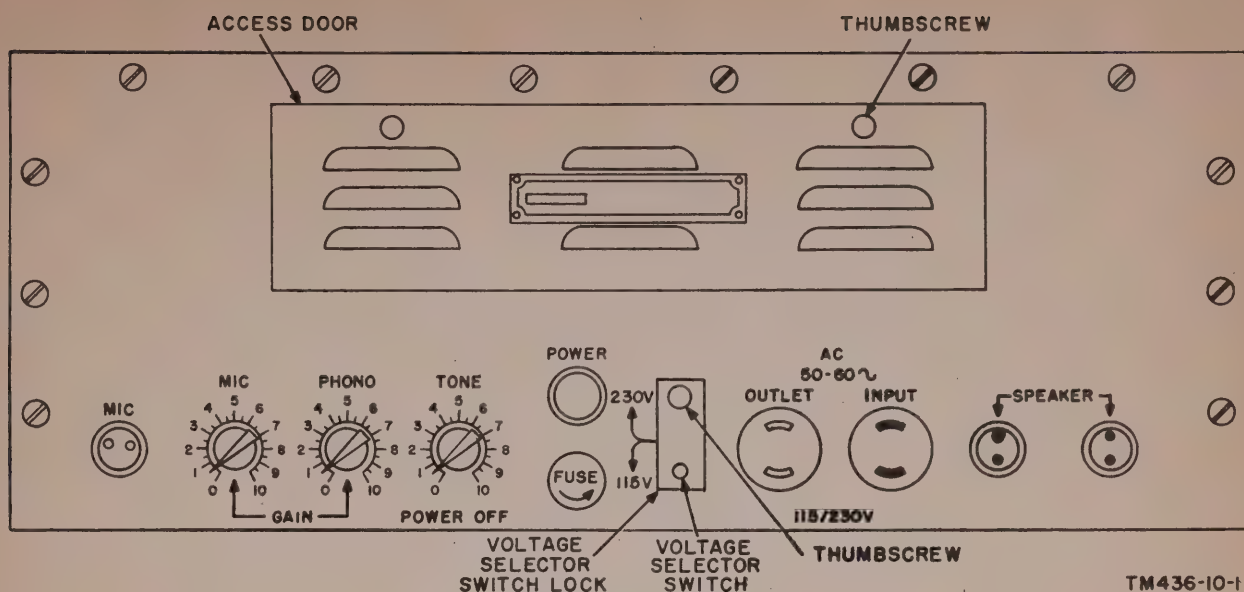
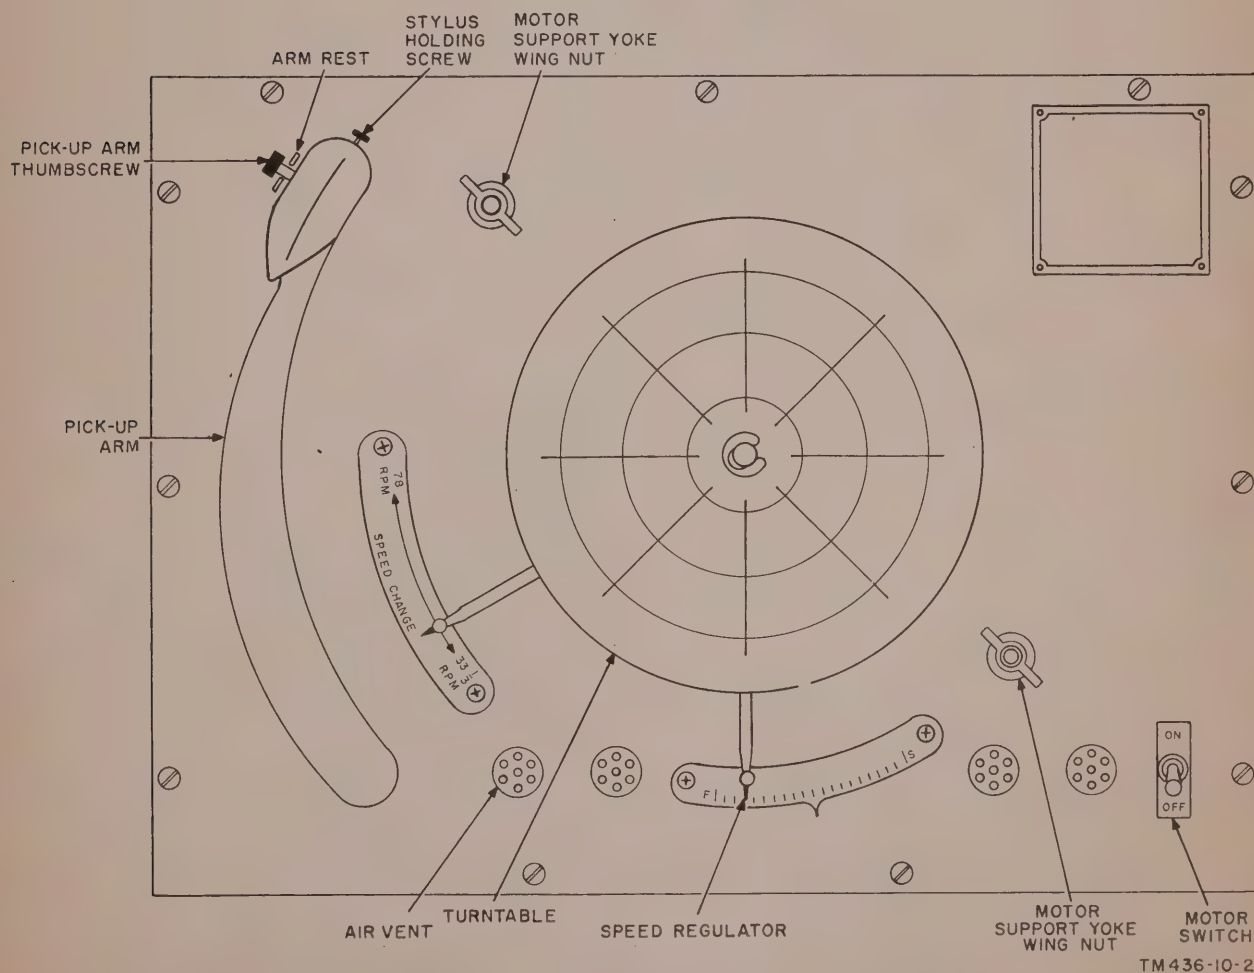
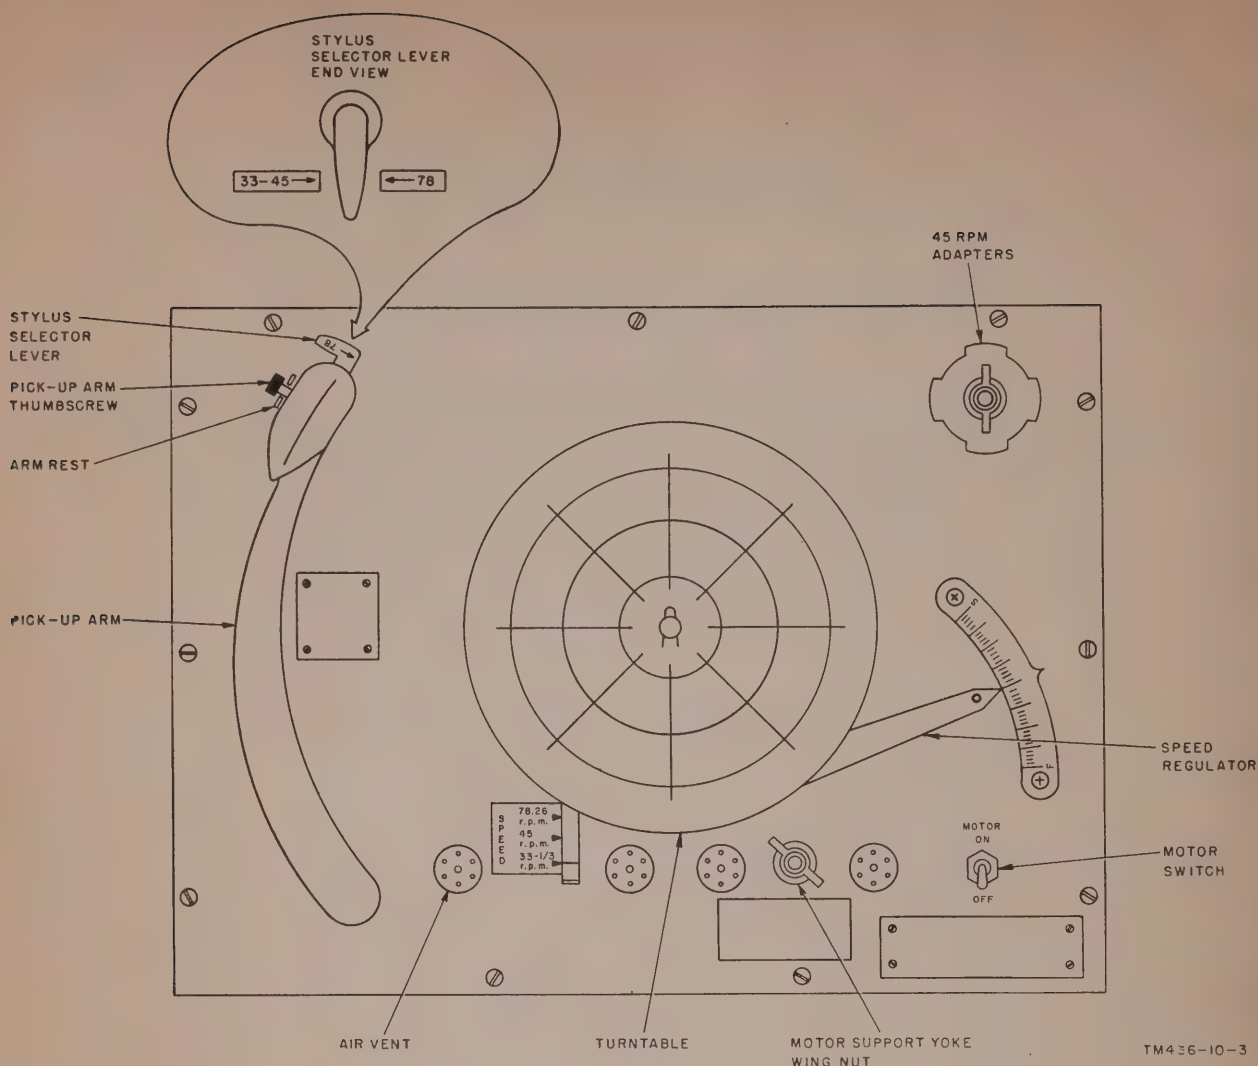
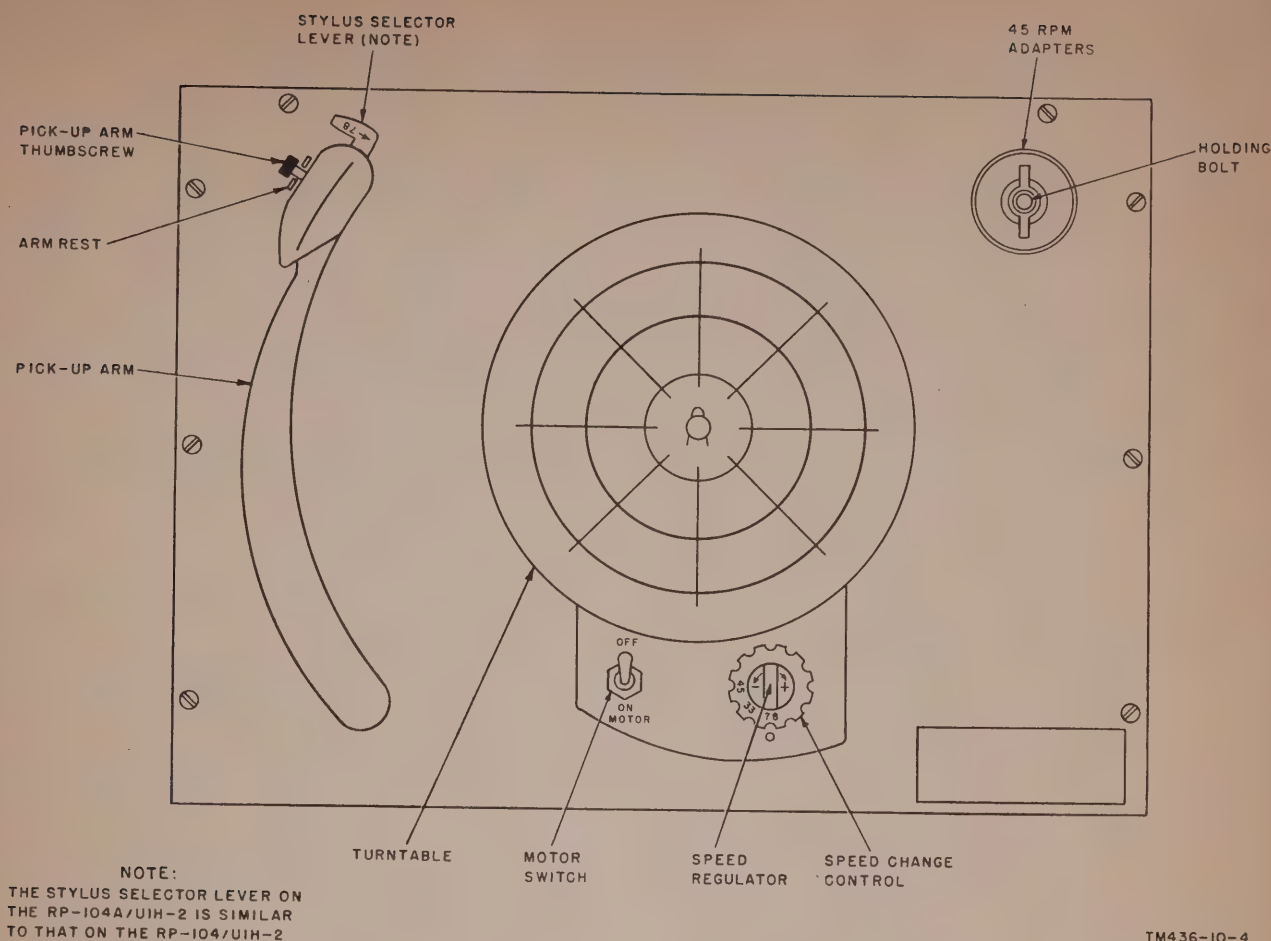

Figure 4. Reproducer, front view.
Figure 5. MX-932/U, top view.
Figure 6. RP-104/UIH-2, top view.
Figure 7. RP-104A/UIH-B, top view.
POWER indicator (fig. 4).	When lighted, indicates power is applied to reproducer.
- (1) Remove the stylus shield (RP-104 (*)/UIH-2). Loosen the pick-up arm thumbscrew (fig. 5, 6, or 7).
- (2) Turn the TONE-POWER OFF control (fig. 4) to its extreme clockwise position. The POWER indicator will light. Allow at least 1 minute for the reproducer to warm up.
- (3) Turn the PHONO control to 5 and the MIC control to 0.
- (4) Rub the thumb across the reproducing stylus (stylus) in the sound reproducer cartridge (cartridge). Clicking noises in the loudspeakers indicate that the reproducer is ready for use.
- (5) Move the motor switch (fig. 5, 6, or 7) to ON.
- (6) Move the speed change control to the desired revolutions per minute (rpm) position. In the RP-104 (*)/UIH-2, also move the stylus selector lever (fig. 6 or 7) to the desired rpm position.
- (1) Place a record on the turntable (fig. 5, 6, or 7).
- (2) Remove the pick-up arm from the arm rest and gently place the stylus in the lead-in groove or at any other selected point on the record.
- (3) If necessary, readjust the PHONO control (fig. 4) for the volume level desired. Volume will depend on the size of the audience and the auditorium (or other area).
- (4) Turn the TONE-POWER OFF control slowly counterclockwise until the desired tone quality is obtained.
- (5) When the record reproduction is complete, do not allow the stylus to ride in the last groove longer than necessary. Gently lift the pick-up arm and replace it on the arm rest.
- (6) If another record is to be reproduced, proceed as follows:
- (c) Follow the procedures given in (2) through (5) above.
- (1) Move the motor switch (fig. 5, 6, or 7) to OFF.
- (2) Remove the record from the turntable. If a 45-rpm record has been used (RP-104(*)/UIH-2) remove the 45-rpm adapter and replace it on the holding bolt (fig. 7).
- (3) Secure the pick-up arm to the arm rest. Replace the stylus shield (RP-104(*)/UIH-2).
- (4) Turn the TONE-POWER OFF control (fig. 4) to 0. The POWER indicator will go out.
- (5) Turn the PHONO control to 0.
- (1) Turn the TONE-POWER OFF control (fig. 4) to its extreme clockwise position. The POWER indicator will light. Allow at least 1 minute for the reproducer to warm up.
- (2) Turn the PHONO control to 0.
- (3) Turn the MIC control to 0.
- (4) Perform the following while speaking into the microphone:
- (1) Readjust the MIC control (fig. 4) as necessary to obtain the desired output volume. Volume will depend on the voice of the speaker, the size of the audience, and the auditorium (or other operating area).
- (2) Readjust the TONE-POWER OFF control to obtain the desired tone output.
- (3) Make any necessary volume and tone adjustments while the microphone is being used.
- (1) Start the playback operation (par. 11b(1) through (4)) and have the microphone user talk in a low voice.
- (2) During mixer operation, adjust the MIC and PHONO controls (fig. 4) for any of the following.
- (3) To change a record in the course of the mixer operation, gently lift the pick-up arm and replace it on the arm rest.
- (a) Move the motor switch (fig. 5, 6, or 7) to OFF.